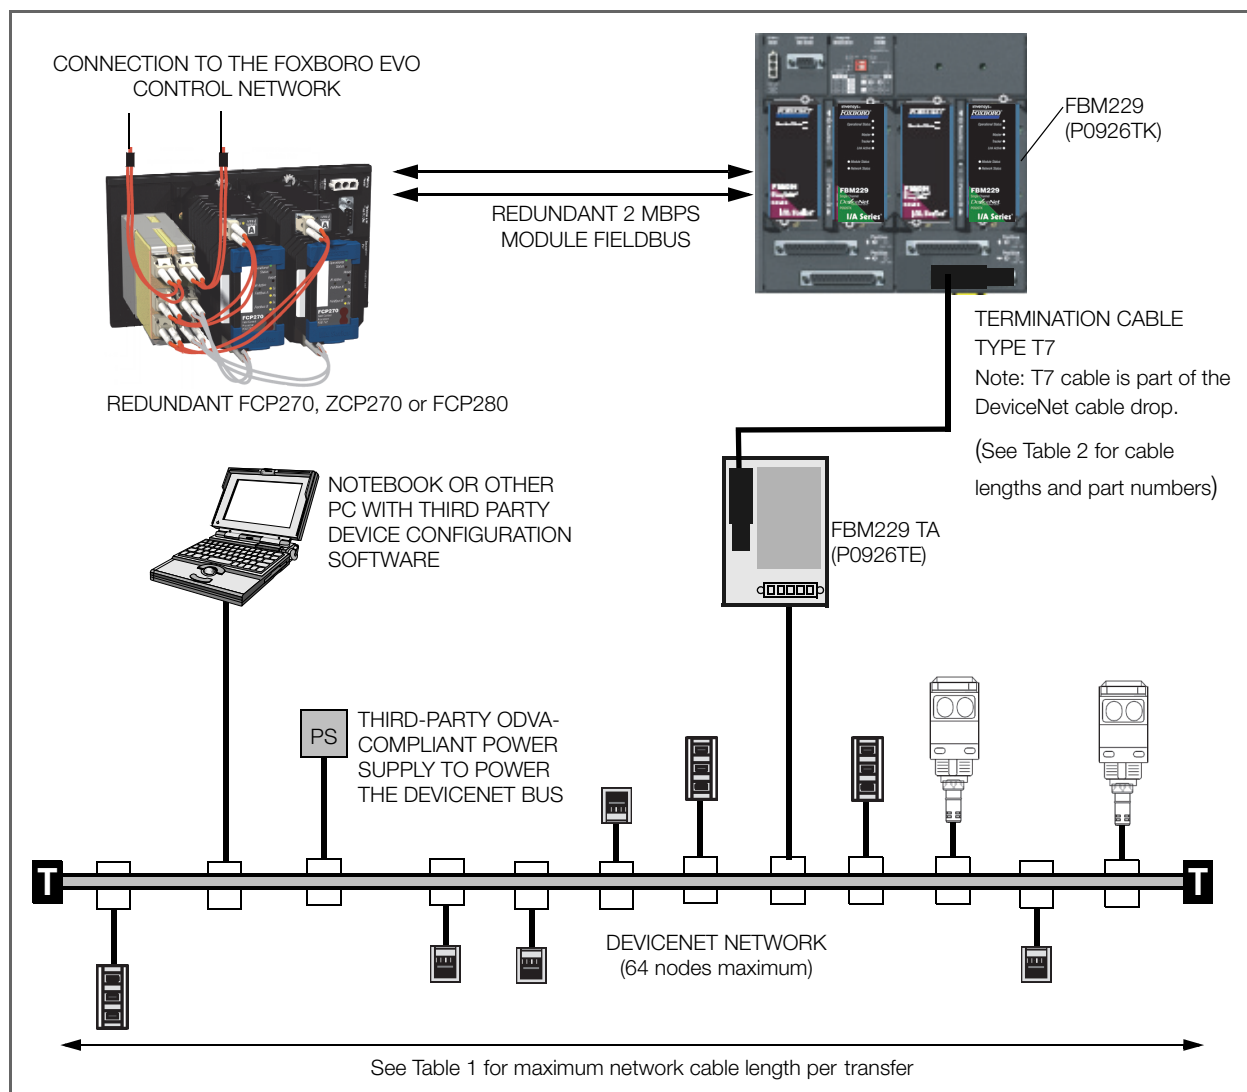

Figure 1. Typical FBM229 Configuration
The FBM229 provides the interface to field devices for either the DIN rail mounted FCP270/FCP280 Field Control Processors or the rack mounted ZCP270 Z-Form Control Processor. When deployed for use with an FCP270 or FCP280 (as shown in Figure 1), the module is installed in the same baseplate or in an adjacent baseplate, and communicates with the control station over a 2 Mbps Fieldbus. The FCP270 or FCP280, in turn, is connected over a 100 Mbps switched network to other control stations, supervisory applications, system management stations, and other Foxboro Evo control resources.
In addition to the four-position baseplate shown in Figure 1, the FBM can be mounted on any of baseplates described in *Standard 200 Series Baseplates* (PSS 31H-2SBASEPLT).
The FBM229 is connected to the DeviceNet segment via a DeviceNet specific termination cable (Type 7) and a termination assembly (TA), as shown in Figure 1. With this drop, the FBM229 operates as a scanner node on the network and complies with the DeviceNet Communication Adapter profile. See "TERMINATION ASSEMBLY" on page 6 for a description of the Type 7 cable and the TA.
A basic DeviceNet topology is shown in Figure 1, however, numerous other topologies can be employed. Refer to PUB00027R1, *Planning and Installation Manual: DeviceNet™ Cable System* (available at www.odva.org).